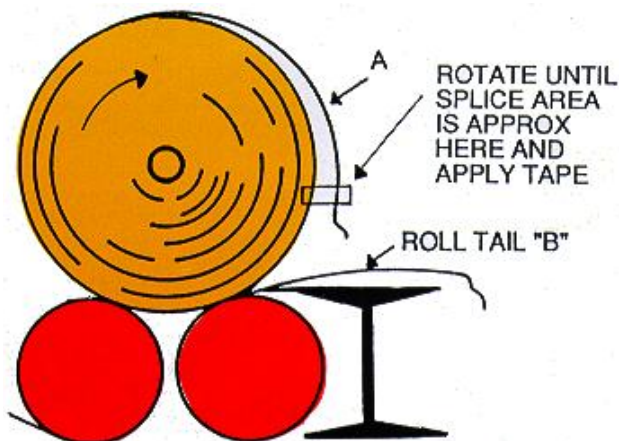

Figure 12
4. Pull roll tail "B" out and place over front drum beam. Rotate roll until intended splice area is approximately at the 3 o'clock position. Figure 12.